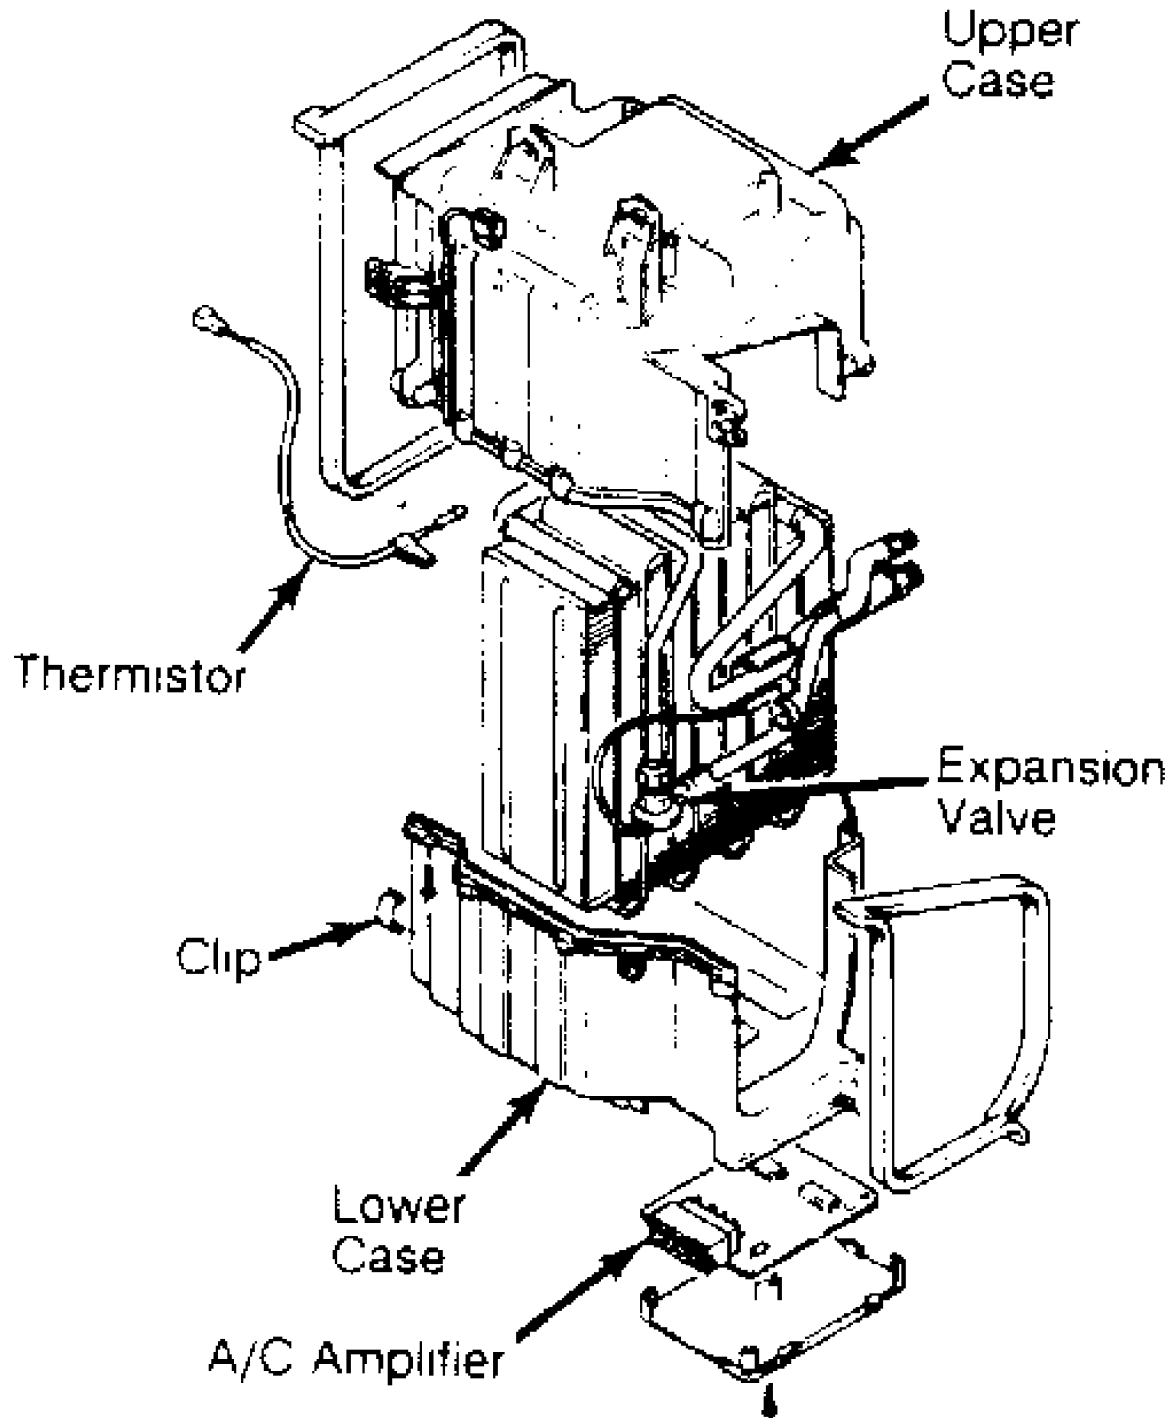

Fig. 12: Exploded View of Evaporator Assembly
3) Remove 3 clips, 5 screws, upper case, thermistor holder, lower case, and A/C amplifier. See Fig. 12. Remove evaporator. Disconnect liquid line from inlet fitting of expansion valve. Remove packing and heat sensing tube from suction hose of evaporator. Remove expansion valve.